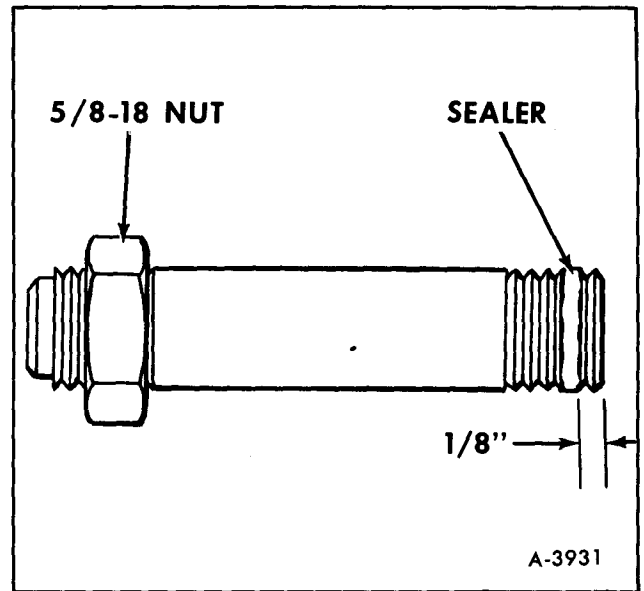

Figure 28—Windshield Wiper Motor Filter
3. Apply pipe joint sealer to filter threads 1/8" from end of filter as shown in Figure 28.